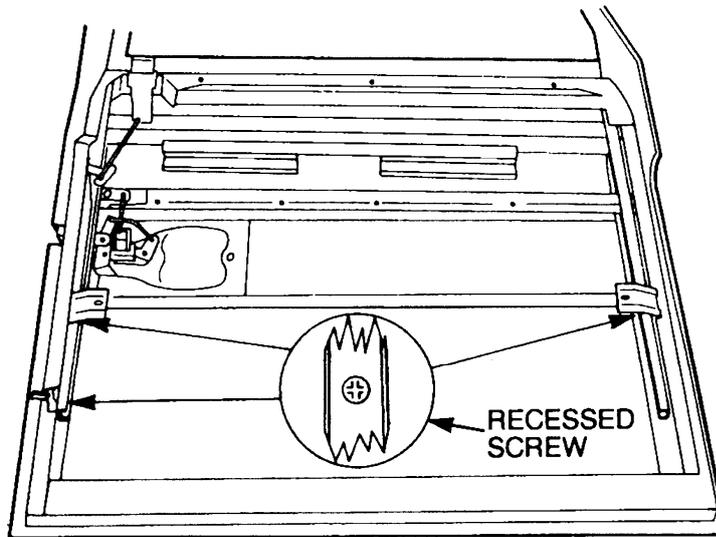

Figure 217 Window Channel Lower End Detachment
- u. Remove the recessed screws securing the lower end of the rear window channel (Figure 217).
- k. Secure the channels with the recessed screws, except the two screws fitted to the bottom of the rear vertical channel (Figure 217).